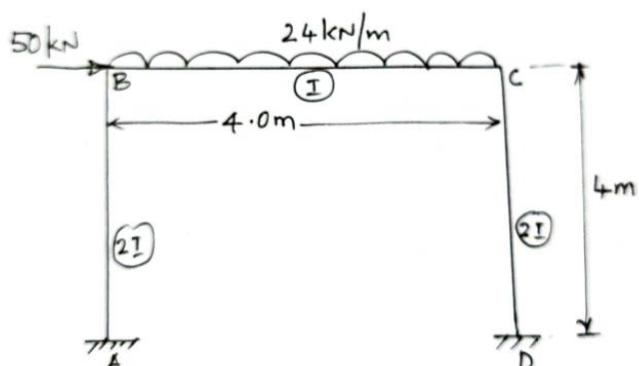

Fig Q5
5. Analyze the rigid frame shown in Fig Q5 using direct stiffness method and draw BMD & Elastic curve.